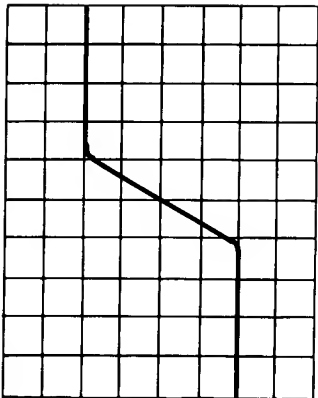

Figure 17b. Time Interval Measurement Using Delayed Time Base - Pulse 1
3. Select **DLY'D** sweep and adjust the **DELAY** control so the 50% amplitude point of the first pulse is on the center vertical graticule line (see figure 17b). Note the **DELAY** control reading.